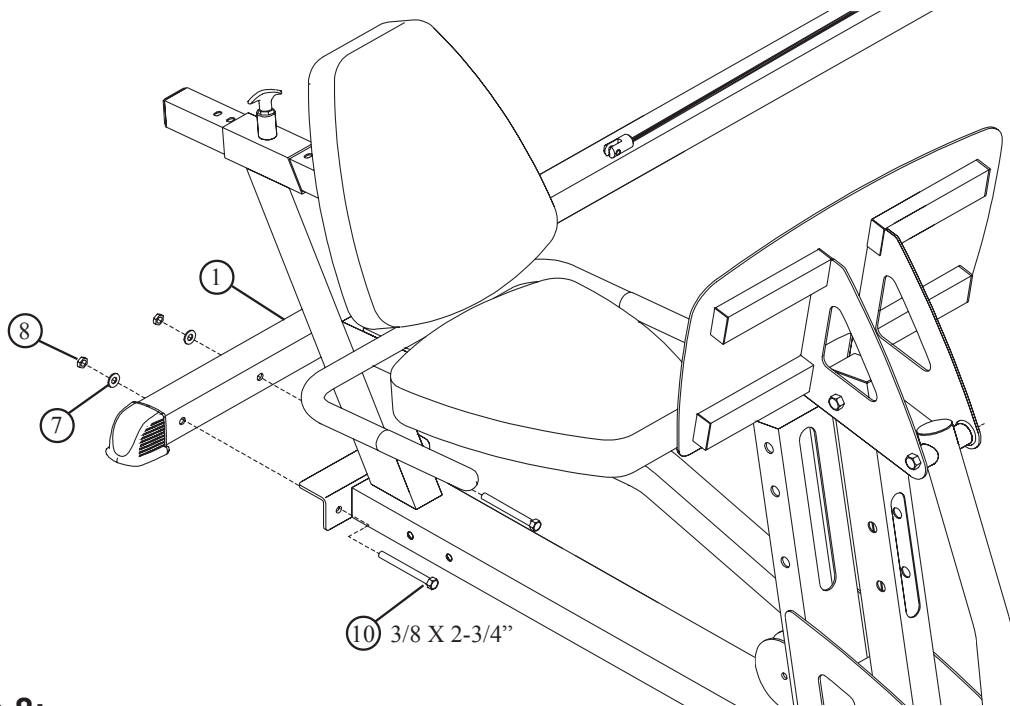

FIGURE 8
- **SECURELY** attach the GLP LEG PRESS to the LEG PRESS ADAPTOR (1) using two 3/8" X 2-3/4" BOLTS (10), two 3/8" WASHERS (7), and two 3/8" LOCK NUTS (8). See FIGURE 8.